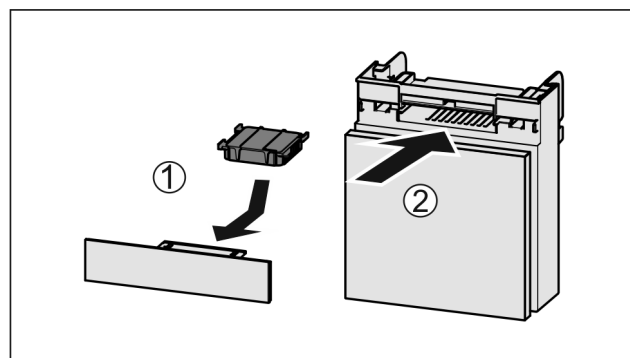

Fig. 243
- Insert the carbon filter as shown in the diagram Fig. 243 (1).
- Push the compartment in Fig. 243 (2).